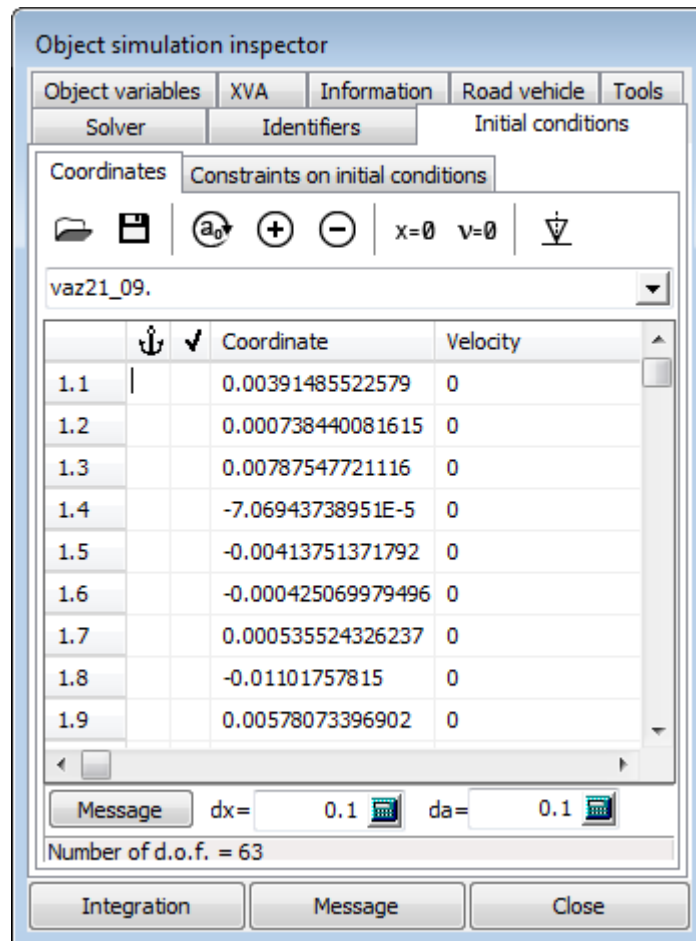

Figure 1.2. Initial conditions for the model
10. Set velocities to zero by clicking  button, see Figure 1.2.